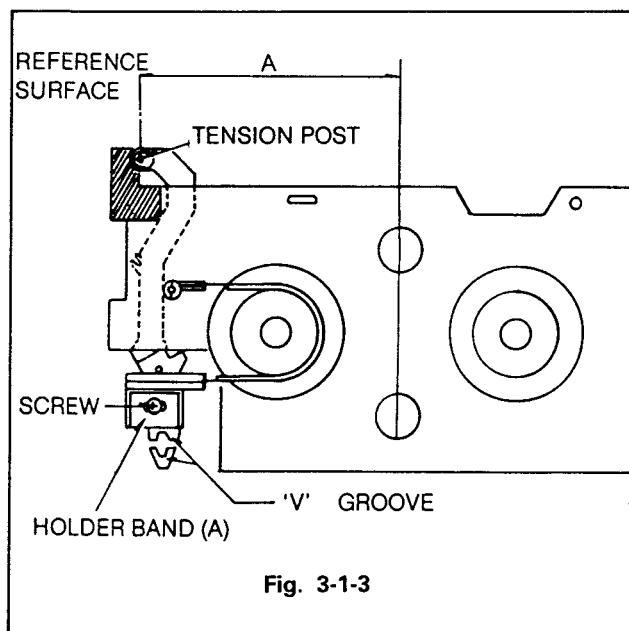

Fig. 3-1-3
- c) Loosen the screw a little(as shown in Fig. 3-1-3).
- d) Insert the (-) type driver between the Holder Band (A) and the 'V' groove of the chassis.
- e) Move the Holder Band (A) right and left to enable the Tension Post to touch on the reference surface.